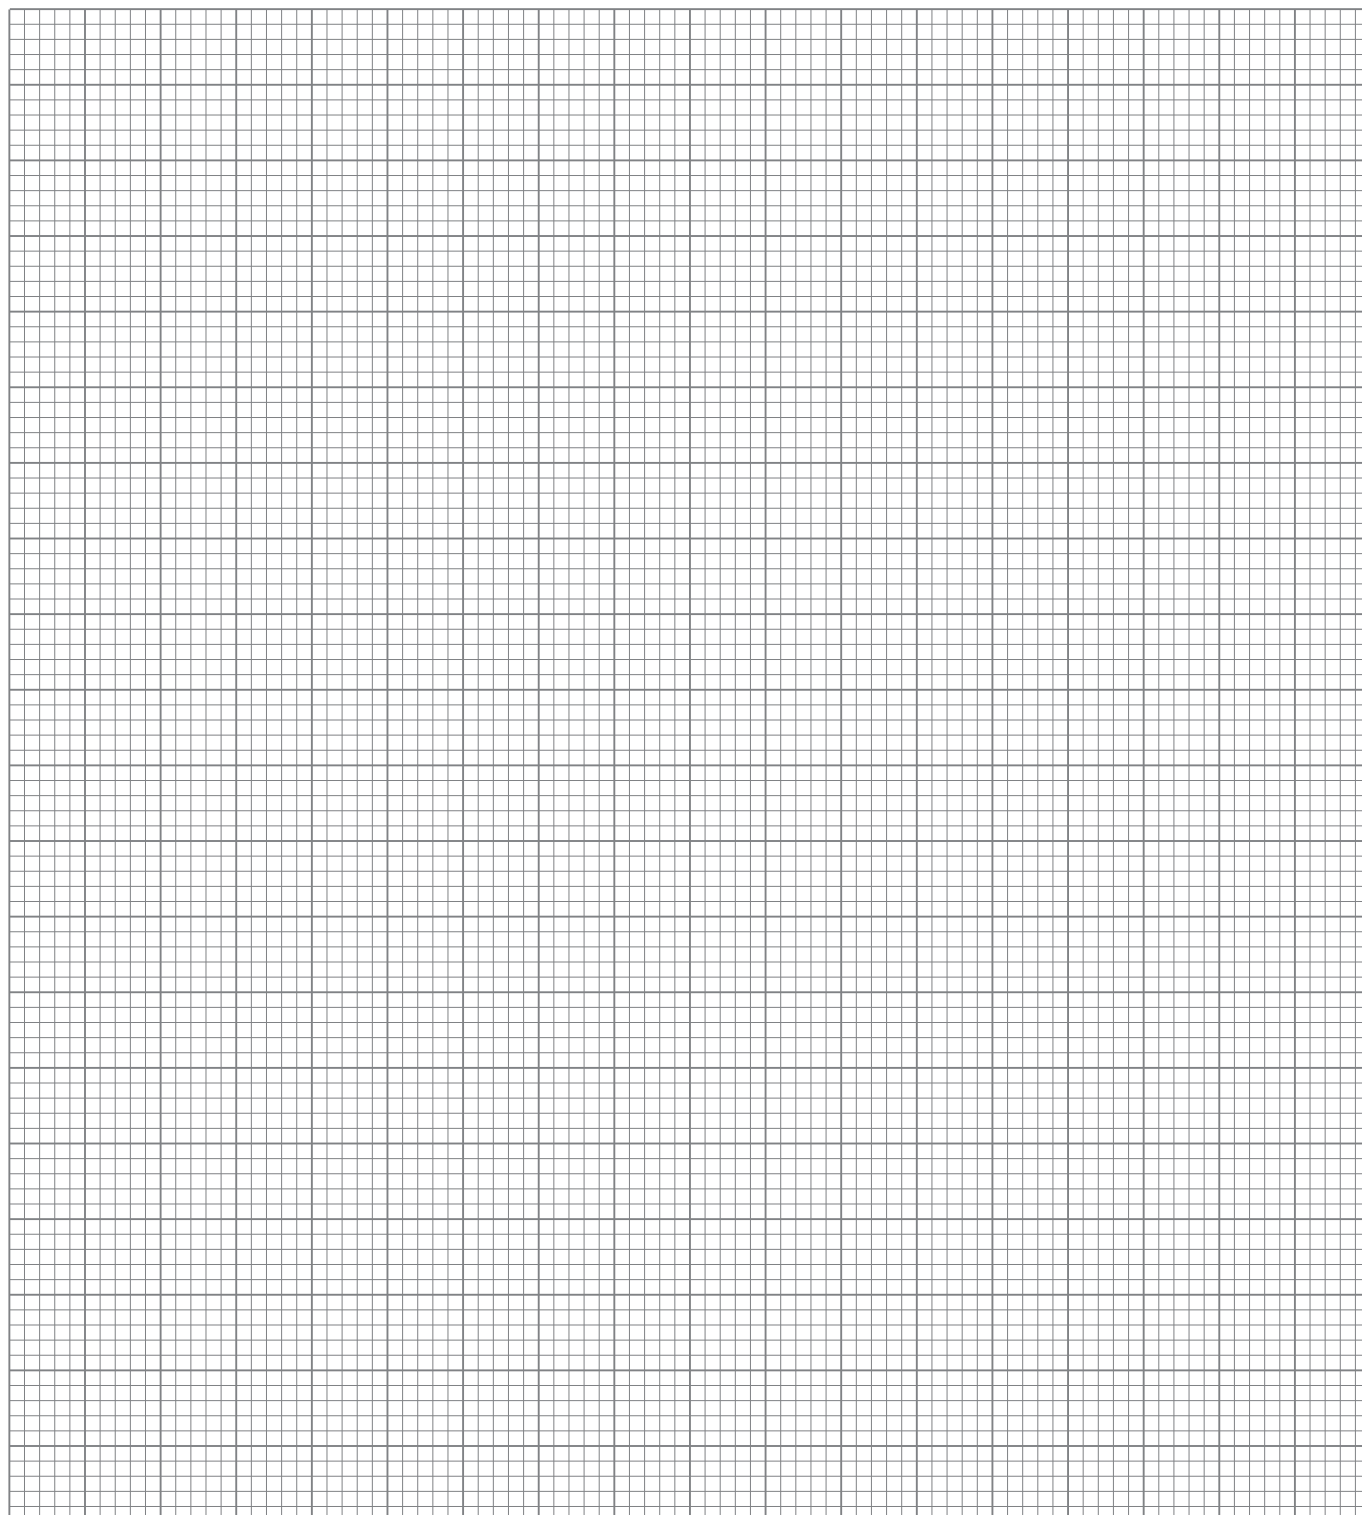

Fig. 2.2
- (ii) On the grid of **Fig. 2.2** you will plot the natural logarithm of the discharge voltage on the y-axis and time on the x-axis. [5]